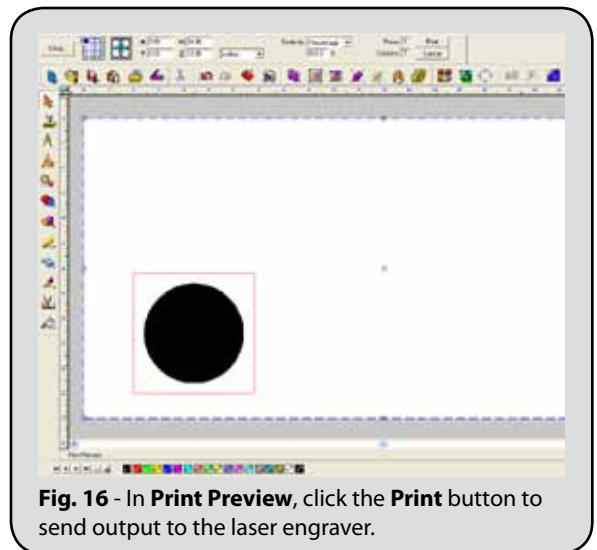

Fig. 16 - In **Print Preview**, click the **Print** button to send output to the laser engraver.
3. In **Print Preview**, click **Print** to begin engraving. (Fig. 16)